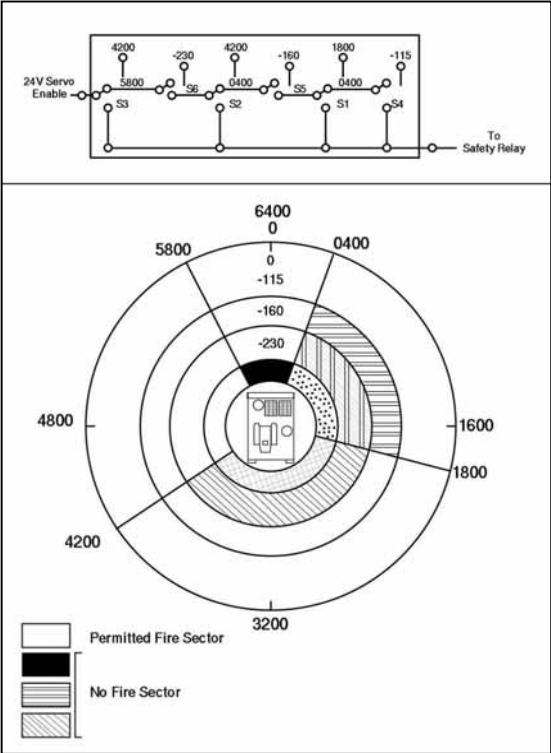

Figure 4-6-2: No Fire Sectors
13. The no fire sector check is performed to check the fire limitations of the TUA (see figure 4-6-2).